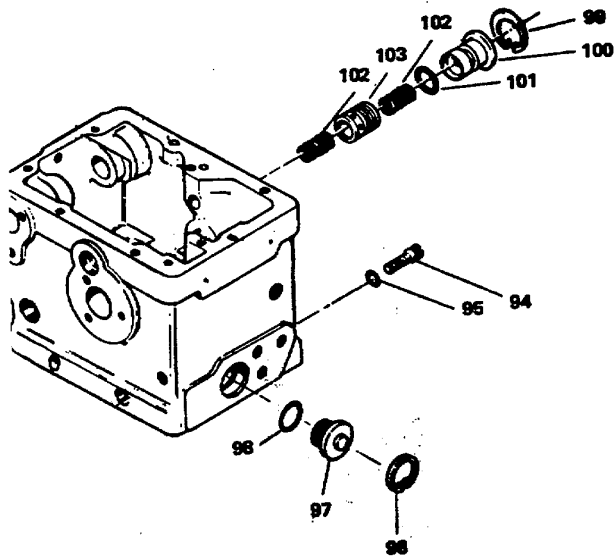

Figure 12-12. Buffer System Parts Layout
- (7) See figure 12-12.
- (a) Assemble packing (98), buffer cap (97) and retaining ring (96) in the case.
- (b) Assemble packing (95) and screw plug (94) in case.